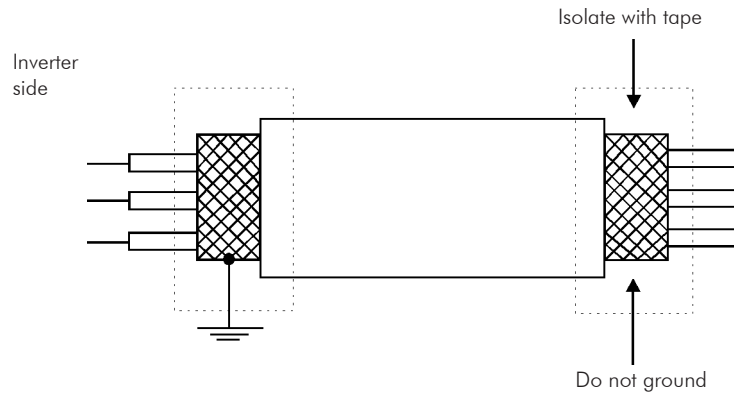
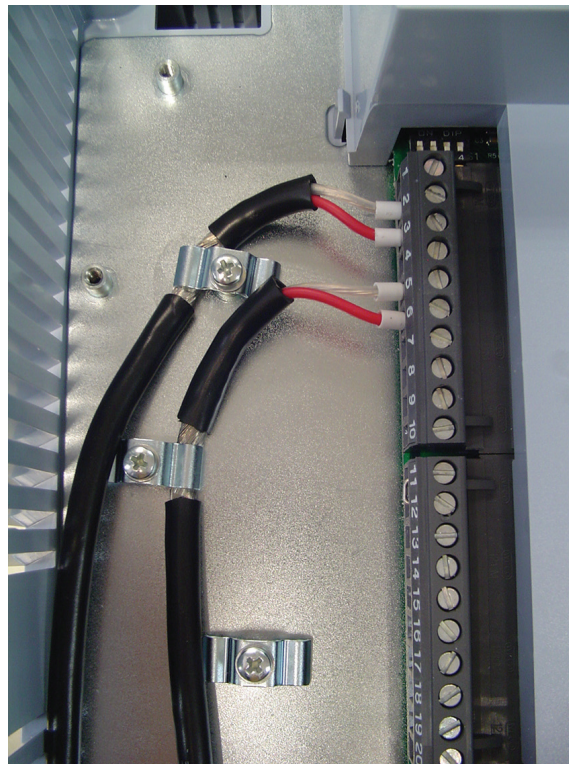

Figure 3.22 - Shield connection
Figure 3.23 - Example of shield connection for the control wiring
- The adequate connection of the cable shield is shown in Figure 3.22 on page 3-30. Figure 3.23 on page 3-30 shows how to connect the cable shield to the ground.